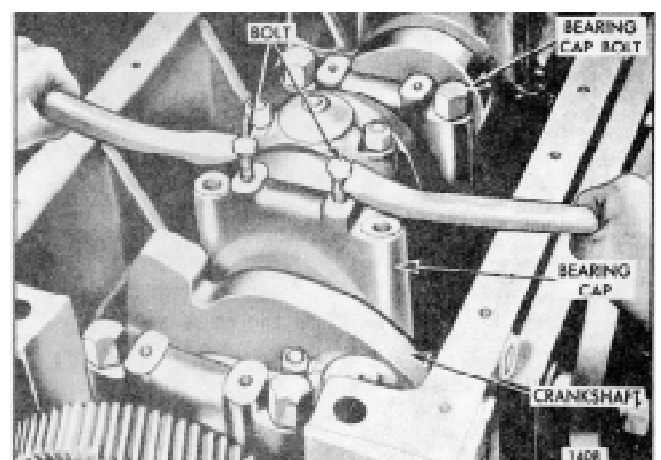

Fig. 2. Removing Main Bearing Cap
3. Remove one main bearing cap at a time (Fig. 2) and inspect the bearing shells as outlined under *Inspection*. Reinstall each bearing shell and cap before removing another bearing cap: